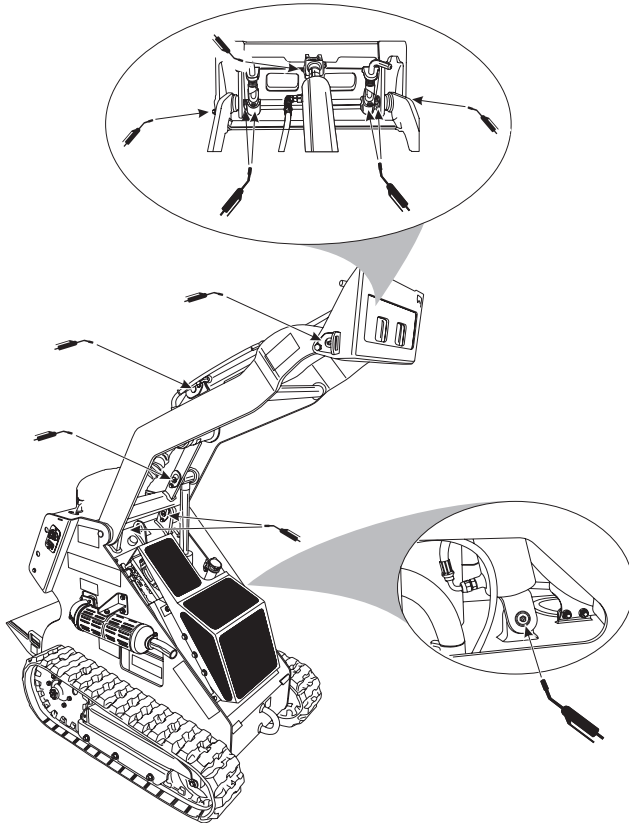

Figure 4-10 Lubrication
9. Lubricate pivot shafts with grease. There are 13 lubrication points on this machine, see **Figure 4-10**.